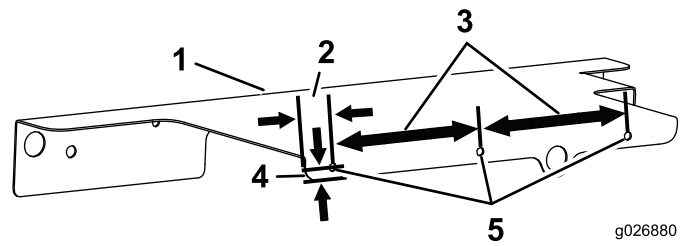

Figure 17
2. Drill 3 holes—8.6 mm (0.34 inch)—into the left cover shield (Figure 17).